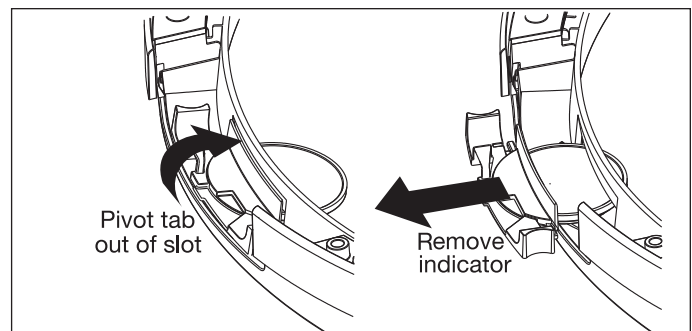

Figure 2-36.
4. Pull the indicator out and set it aside. (See Figure 2-36)